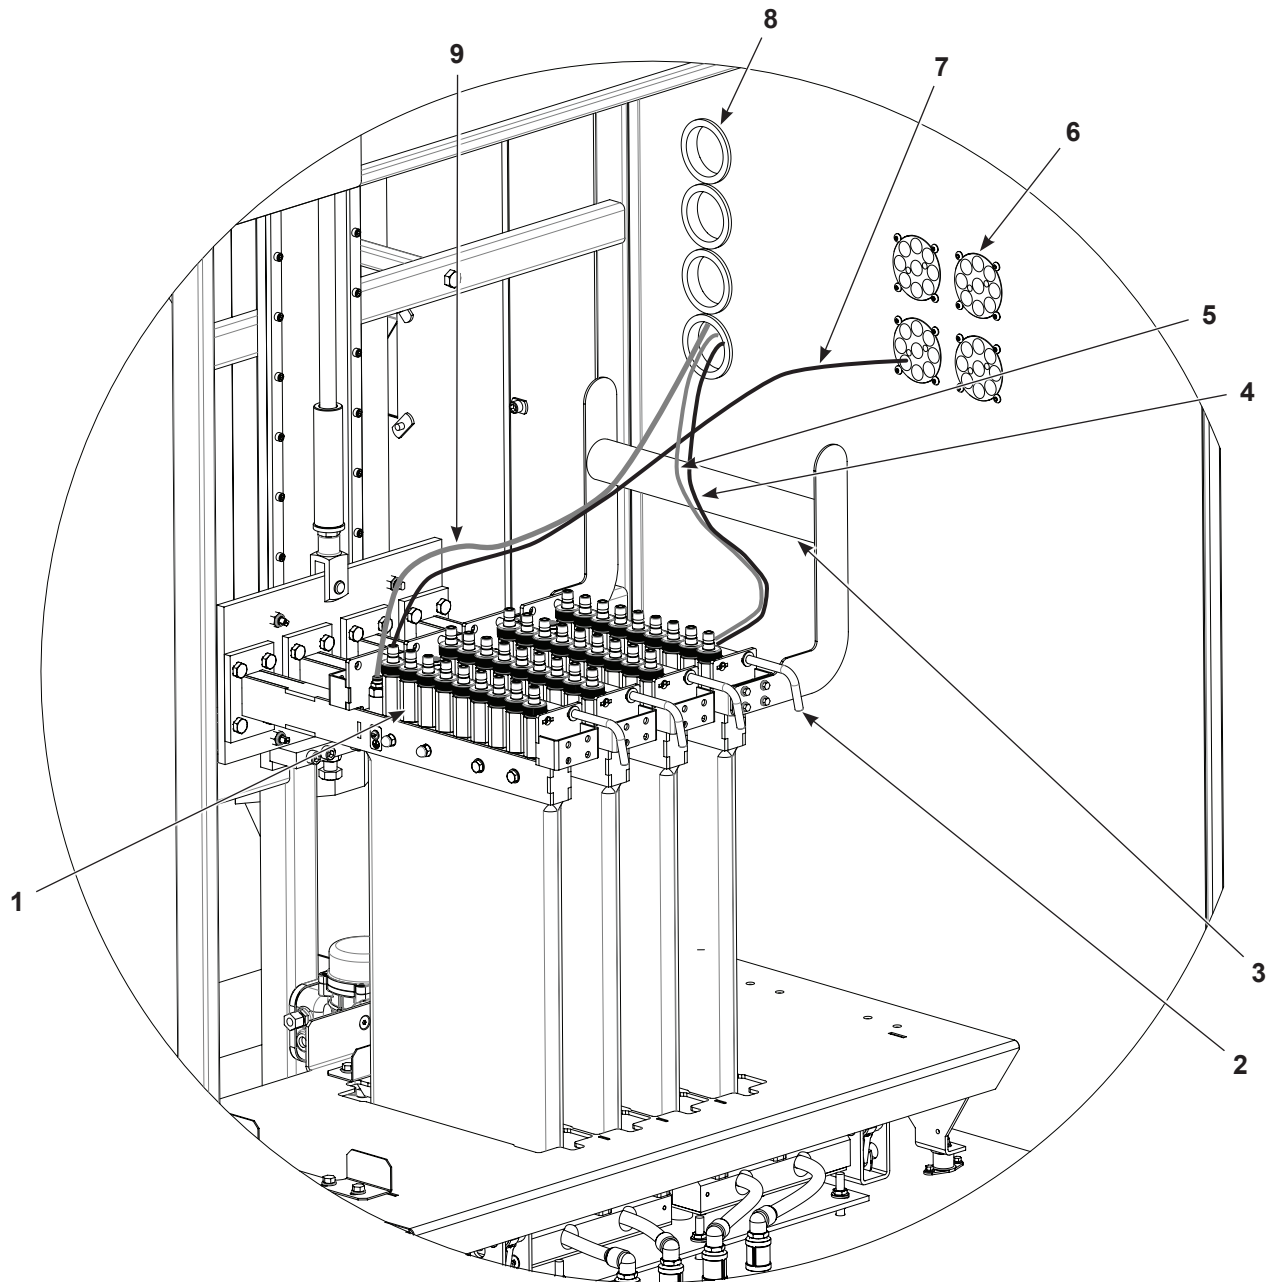

Figure 3-3 Pump, Powder Feed Hose, and Air Tubing Connections to Lance Assembly
See Figure 3-2 and Figure 3-3. Typically, the pumps are installed at the factory. If not, install the powder pumps into the lance ports, with all the pump air fittings pointing in the same direction. Install the retaining rods into the brackets to lock the pumps in place. The pump connections are application specific; refer to your system drawings for the correct connections.
See Figure 3-2 and Figure 3-3. If the pumps are installed at the factory, the flow (black) and atomizing (blue) air tubing is also installed from the pumps to the air manifolds on the side wall of the feed center. If not, the pumps are numbered and the tubing must be connected from the pumps to the appropriate fittings in the air manifolds on the side wall of the feed center.
See Figure 3-2 and Figure 3-3. Label and route the powder feed hoses (7) from the spray guns through the multi-tube grommets (6) on the side wall of the feed center and connect the hoses to the appropriate pump outlet fittings (1). Refer to your system drawings for the correct connections.
See Figure 3-3. Allow enough slack in the hoses (7) and air tubing (4, 5) to allow the lance assembly to travel through its full range of movement without stretching or kinking the hoses or tubing. Use the bar (3) to support tubing and hoses.
See Figure 3-3. If not done, connect 6-mm blue air tubing (5) from the fluidizing air regulator on the side wall of the feed center through the multi-tube gasket (8) and connect the tubing to the fitting on the lance, as shown. Use the bar (3) to support tubing and hoses.